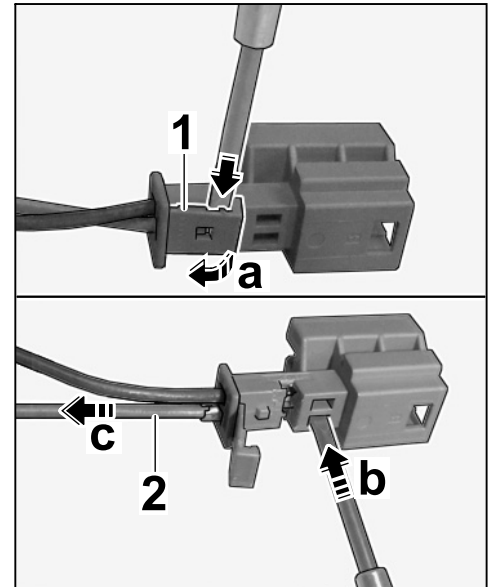

Figure 5
- 2.2.1 Insert a screwdriver in between the secondary lock ⇒ *Figure 5-1*- and pin connector socket ⇒ *Figure 5 -arrow-* and open the secondary lock ⇒ *Figure 5 -arrow a-*.
- 2.2.2 Release pin contact using press-out tool ⇒ *Figure 5 -arrow b-* and pull out YE/GY line ⇒ *Figure 5-2*- (⇒ *Figure 5 -arrow c-*).